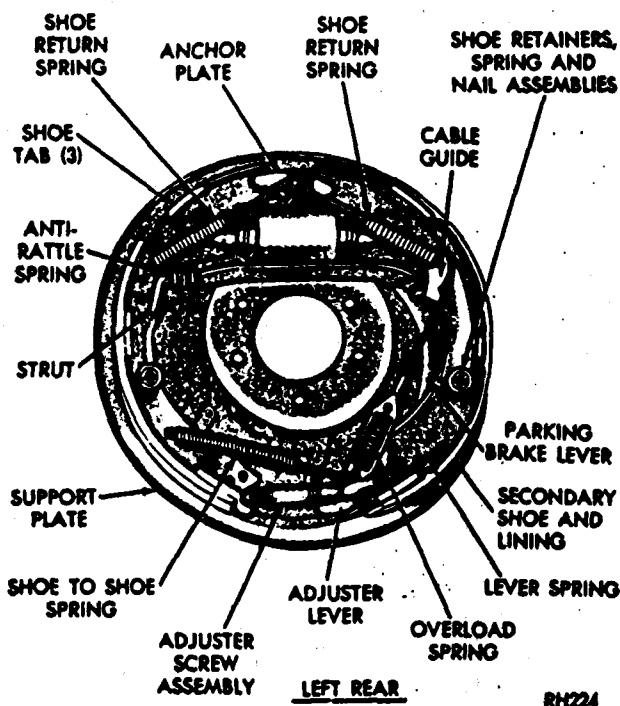
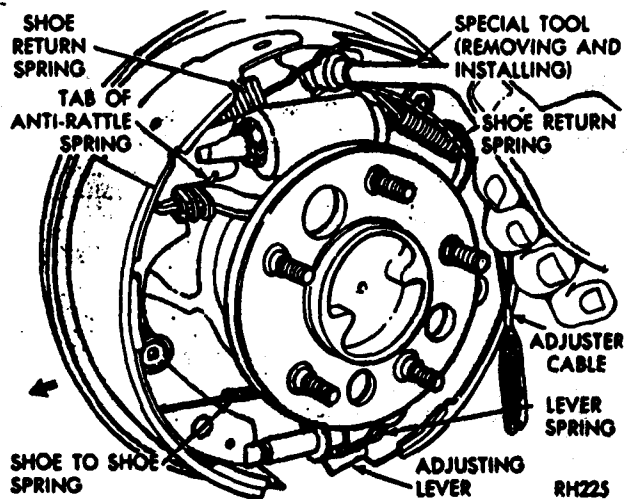

Fig. 1—Eleven Inch Brake Assembly
Fig. 2—Removing Shoe Return Springs
All drum brake applications are two shoe, internal expanding brakes with application adjusters. The lower ends of the brake shoes are connected by a tubular star wheel adjusting screw (Figs. 1 and 2).
(1) Remove brake drum.
(2) Using Tool C-3785, remove brake shoe return springs (Fig. 2). (Note how secondary shoe return spring overlaps primary shoe return spring) (Fig. 1).
(3) Slide eye of automatic adjuster cable off anchor and then unhook from adjusting lever. Remove cable assembly, cable guide, and anchor plate.